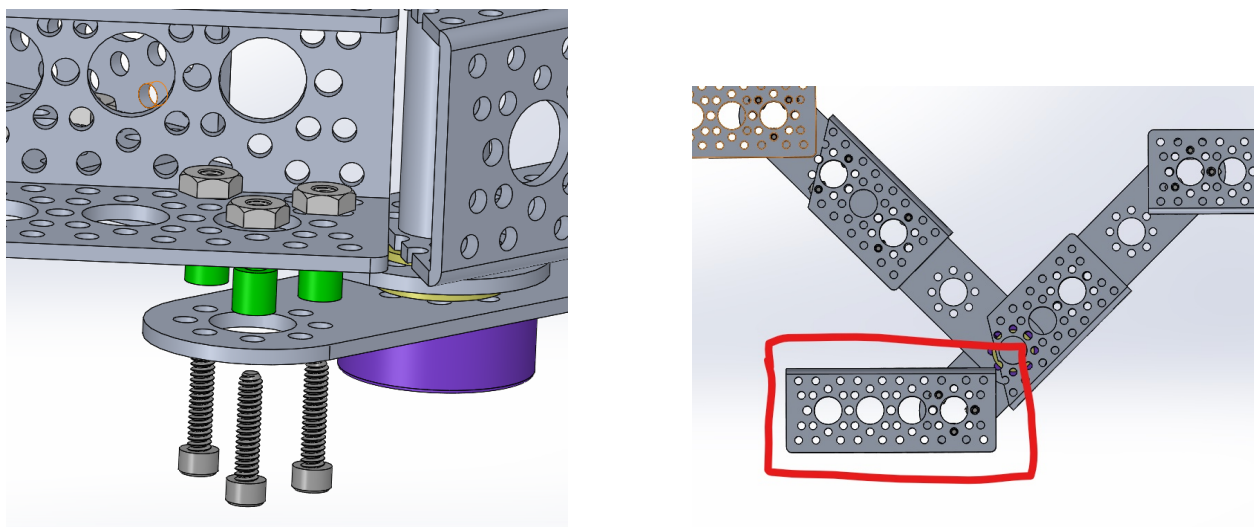

Figure 6: Attachment for middle wheel
4. **Attachment for middle Wheel:** Attach another 3.75 inch channel **S3** to the bottom hole of the pattern F bracket using spacers **T1**, screws **B4**, and hex nuts **B11** as shown in Figure 6.